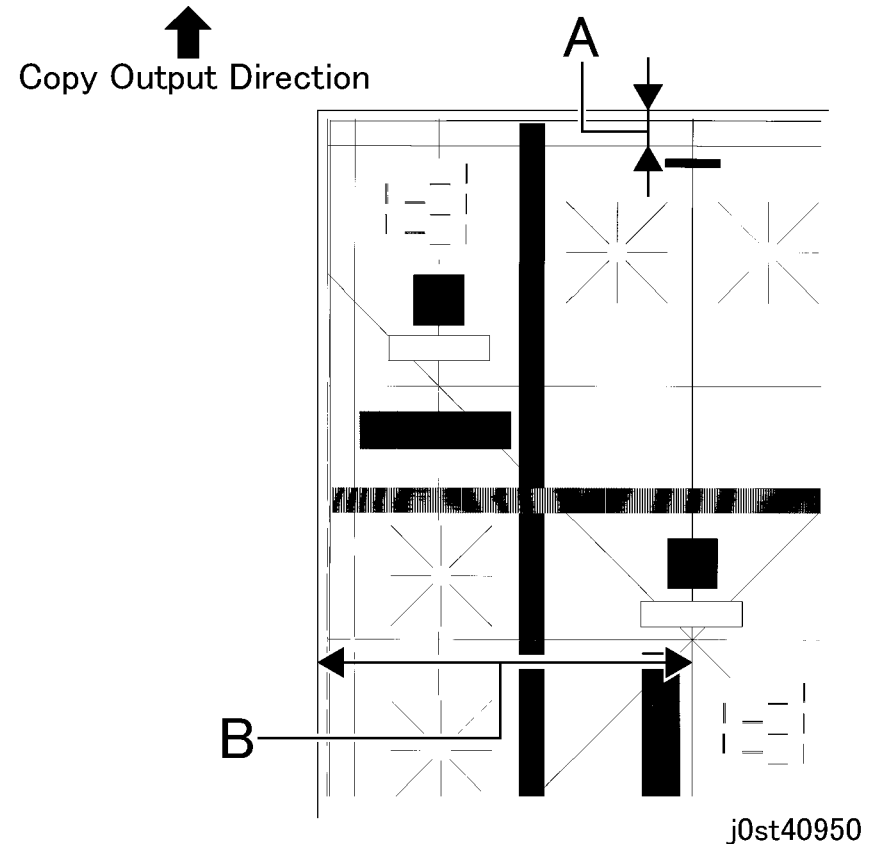

Figure 1 IOT Registration (j0st40950)
5. Measure the Lead and Side Edges of the print pattern. (Figure 1)